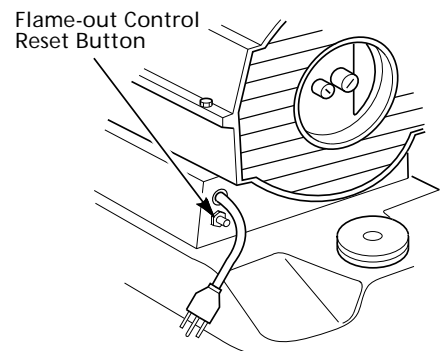

Figure 7 - Flame-out Control Reset Button, Models 2E510D and 2E511D
5. Plug extension cord into standard 120 volt/60 hertz, three-hole, grounded outlet. Heater will start when extension cord is plugged into outlet. If not, push in flame-out control reset button (see Figures 7 and 8).